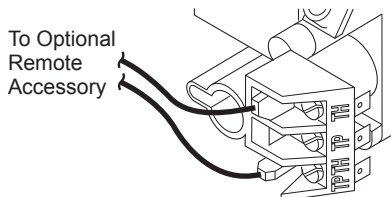

Figure 45 - Control Valve Terminals
4. Connect wires from receiver to TH and TPTH to control valve (see Figure 45).